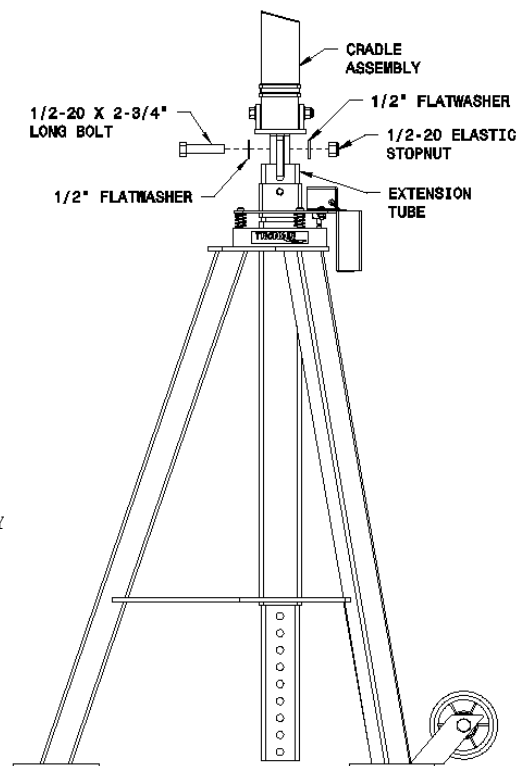

FIGURE 3
2. Fasten cradle assembly to extension tube with one (1) 1/2" - 20 x 2-3/4" inch hex head bolt, 1/2" inch flatwasher, and 1/2" - 20 elastic stopnut. **reference Figure 3.**